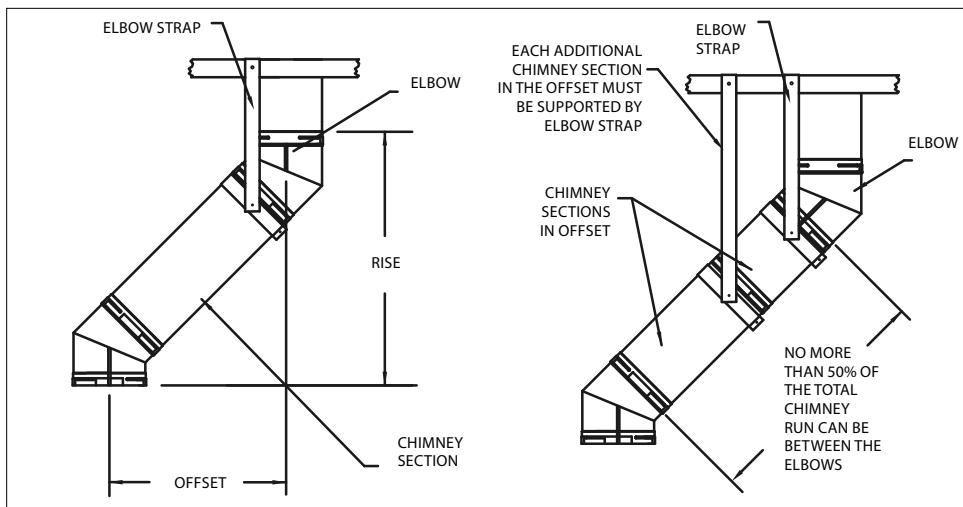

Figure 15
Important: For each chimney pipe section in the offset (between the elbows), there must be an Elbow Strap, Tee Support, or similar support method to support the weight of the pipe and to relieve stress on the Elbows. Attach the second Elbow above the Chimney Section to complete the offset (**Fig 15**).
2. Secure Offset: Place the Elbow Strap's band around the angled portion of the top Elbow, then tighten the nut and bolt until the clamp is firm. Wrap the Elbow Strap end over an adjacent joist or rafter and secure it with at least (4) 8-penny nails or (4) #8, 1-1/2 screws. Do not add more Chimney Sections until the Elbows are supported. Be sure that the chimney remains vertical. If there is more than one Chimney Section between the Elbows, install an additional Elbow Strap for each chimney section in the offset (**Fig 15**).